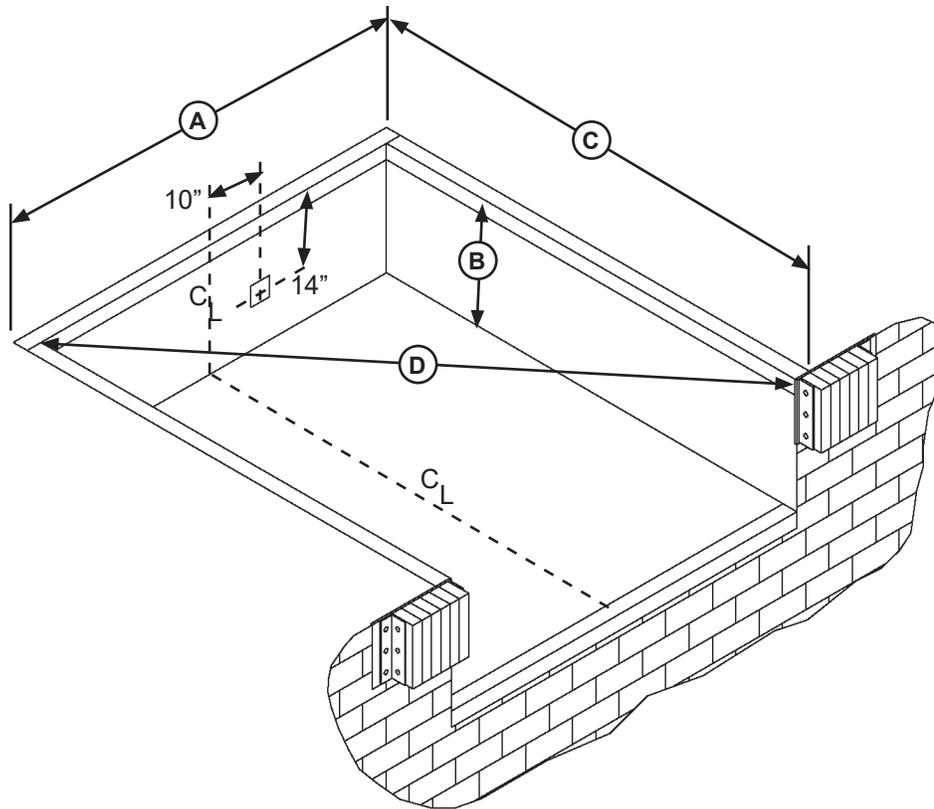

Figure 7
2. Check the entire dock leveler pit for proper construction according to approved/certified pit drawings. Make sure pit is square by making the following measurements (see Figure 7):
- Measure pit width distance (A) at both front and rear of pit.
- Measure dock floor-to-pit floor distance (B) at all four corners.
- Measure pit length distance (C) at both sides.
- Measure corner-to-corner (diagonal) distance (D) at both sides. Take measurements at dock floor level and at pit floor level.